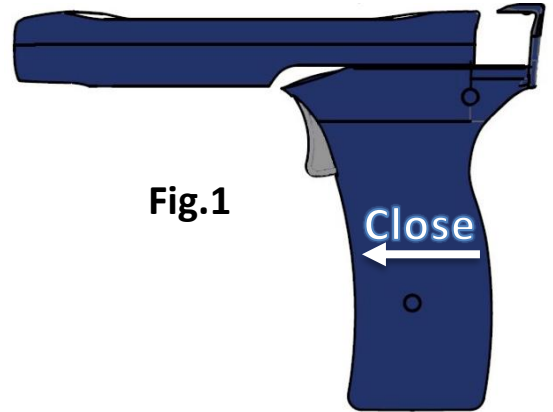

Fig.1
- Insert the handle on the body of the thermometer, making it slide along the guides of the battery compartment, as shown in Fig.1, until you feel a click.
The thermometer can also be operated without the handle by closing the battery compartment with the battery door provided (see operating manual, fig. 1 and section 11). If used without the handle, the operating manual code